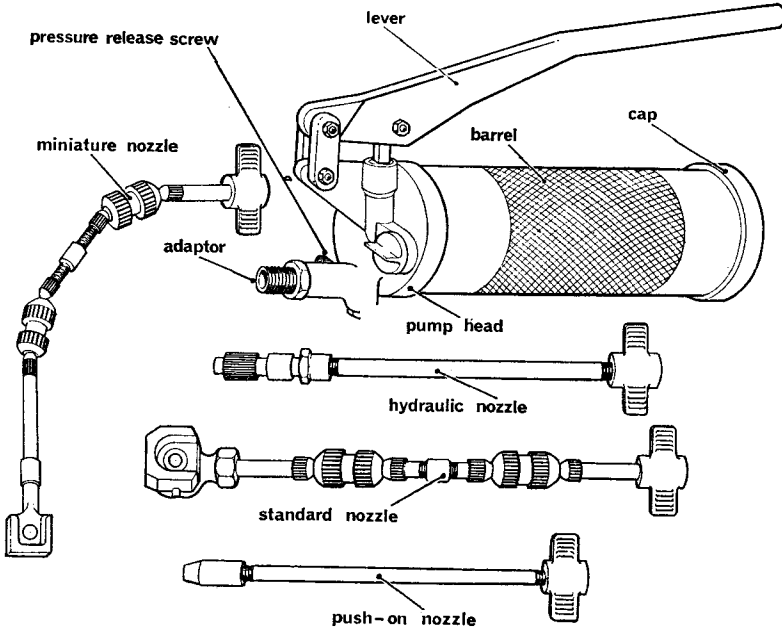

Fig. 34 The universal grease gun
42. **Grease guns.** These are provided to force grease under pressure into the bearings of machines. The universal model is supplied with four nozzles for use with different nipples (Fig.34). After changing a nozzle it is advisable to prime the new one before fitting it to a nipple.